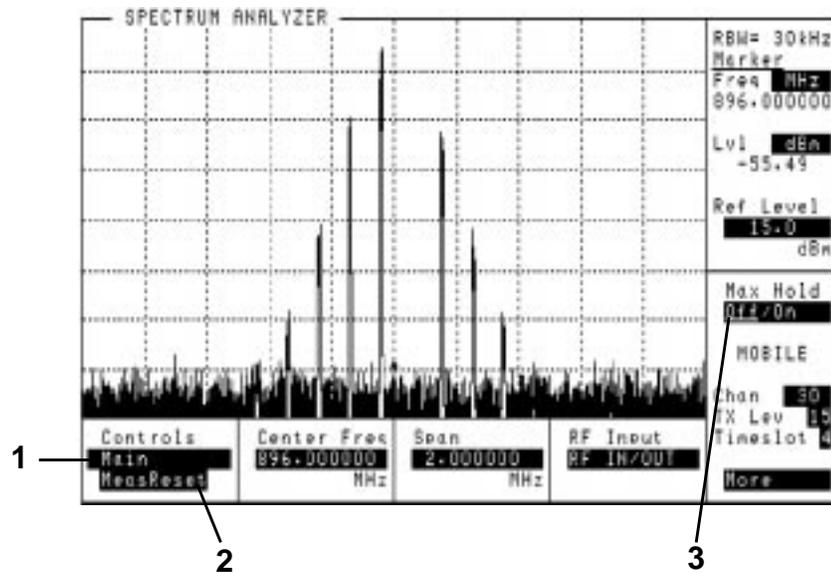

Figure 2-12 Spectrum Analyzer Measurement
- **Main** - the default screen has basic spectrum analyzer functions, see Figure 2-12 on page 2-25.